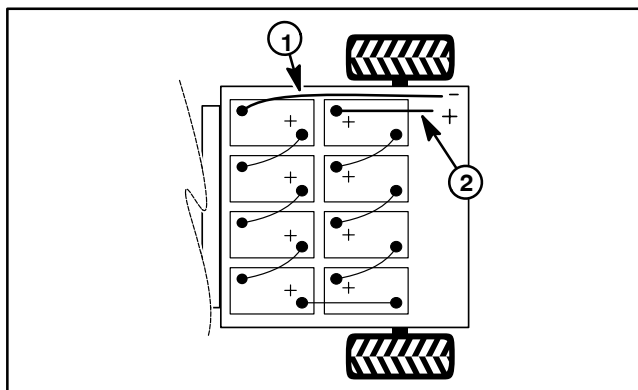

Figure 32
1. Make sure on/off switch is turned OFF. Open the battery circuit by removing one of the battery cables (see Opening Battery Circuit in the General Information section of this chapter and Fig. 32).